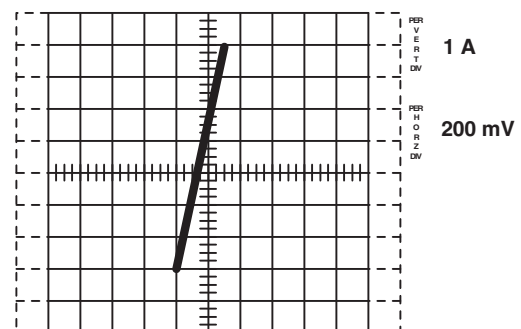

Fig. 9 - Source-drain voltage (diode)
11. The device is connected using the **left/right** switch. Increase the **variable collector supply** voltage until rated current is reached (9 A for the IRF630). Read V_{SD} from the trace (see figure 9).